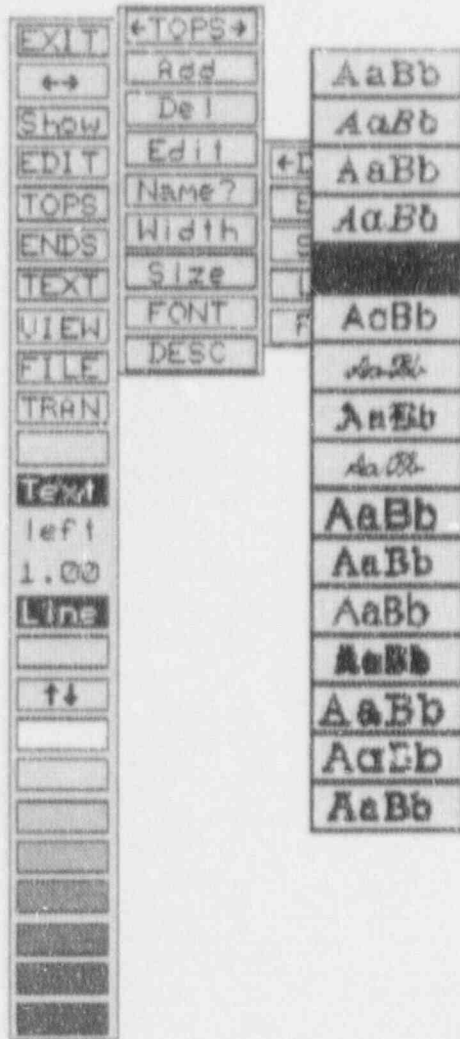

Figure 122. Font selection for event descriptions.
7.2.5.9.5 FONT—This option allows you to select the font type for the event descriptions. When you select this option, an additional pop-up menu will be displayed (see Figure 122). Select the desired font type by positioning the cursor over the font and pressing the left mouse button. You must select a font (or cancel) to continue. If the font type is changed, the event descriptions will be redisplayed.